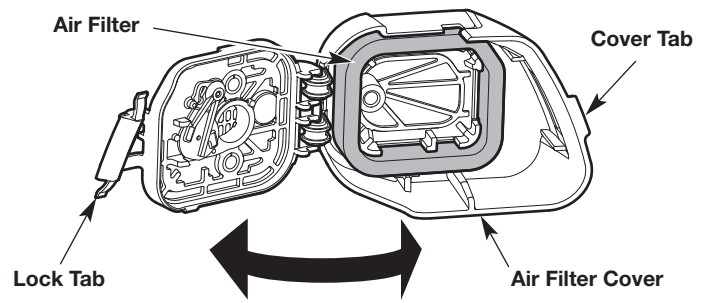

Fig. 24
1. Open the air filter cover: Hook your fingers behind the cover tab. To unlock the air filter cover, pull it to the left and away from the engine. This may require a firm pull. Swing the air filter cover to the right (Fig. 24).
2. Remove the air filter from inside the air filter cover (Fig. 24).
6. Reinstall the air filter inside the air filter cover (Fig. 24).
7. Close the air filter cover: swing the air filter cover to the left and press it closed until the lock tab snaps into place (Fig. 24).